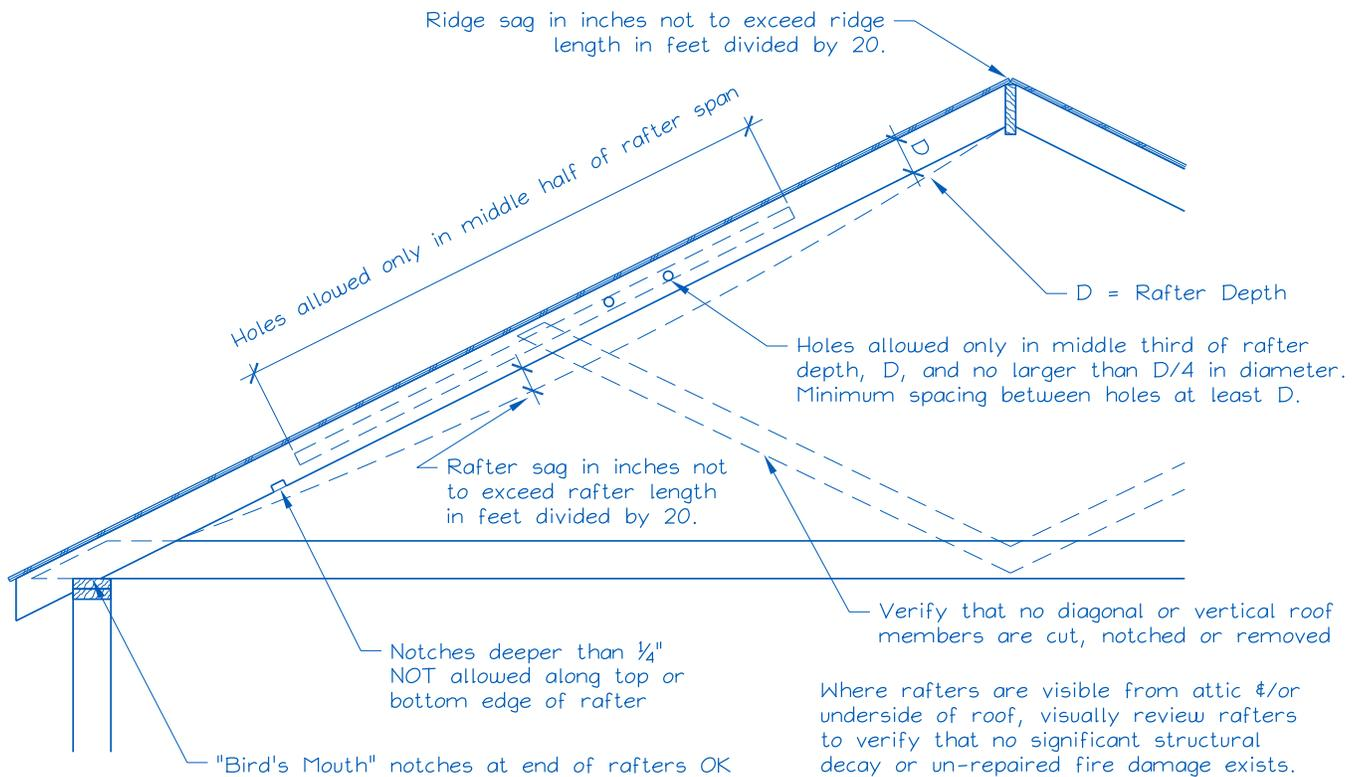

Figure 1. Roof Visual Structural Review of Existing Conditions. (Site Audit)
- 2) Does the roof structure appear structurally sound, without signs of alterations or significant structural deterioration or sagging, as illustrated in Figure 1? Y N